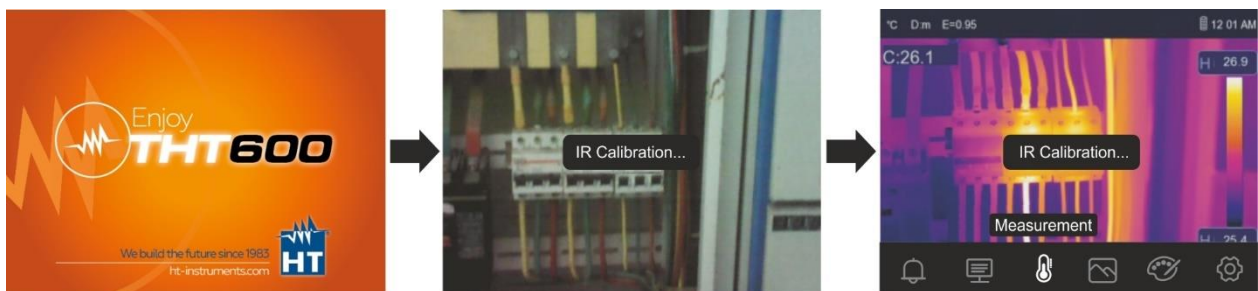

Fig. 5: Sequence upon switching on the instrument
1. Press and hold key for **2s** to switch on the instrument. After the initial splash screen is displayed (see Fig. 5 – left side), the instrument needs for a certain heating time (approx. 30s) in order to provide accurate temperature measurements and quality images.
2. The instrument initially shows the visible image for a few seconds and the message “**IR calibration...**” while it correctly calibrates the internal sensor (see Fig. 5 – middle).
3. After a few seconds, the IR image is shown on the display and the instrument is ready for measurement (see Fig. 5 – right side).